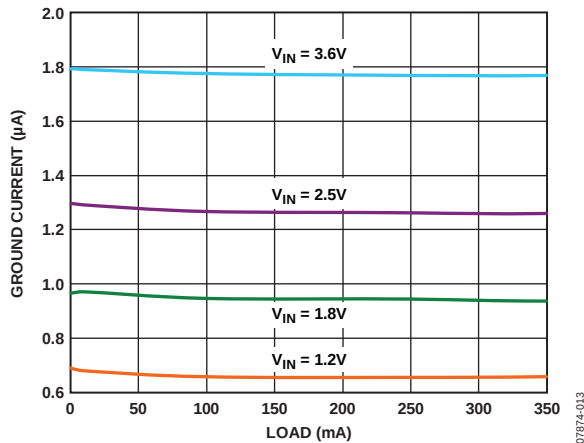

Figure 19. Ground Current vs. Load Current
The major source for ground current in the ADP190/ADP191 is the 4 M Ω pull-down on the enable (EN) pin. Figure 19 shows typical ground current when $V_{EN} = V_{IN}$ and V_{IN} varies from 1.1 V to 3.6 V.